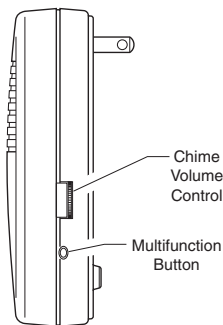

Figure 1
8. Adjust volume control. Unplug chime and adjust volume control to desired volume (see Figure 1). Plug chime back into wall outlet.